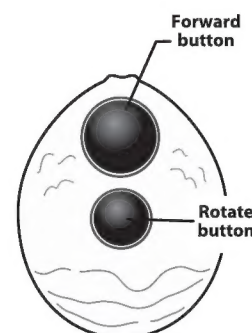

Fig. 3
2. Move the rat forward or make it turn using the buttons on the controller (See Fig. 3).